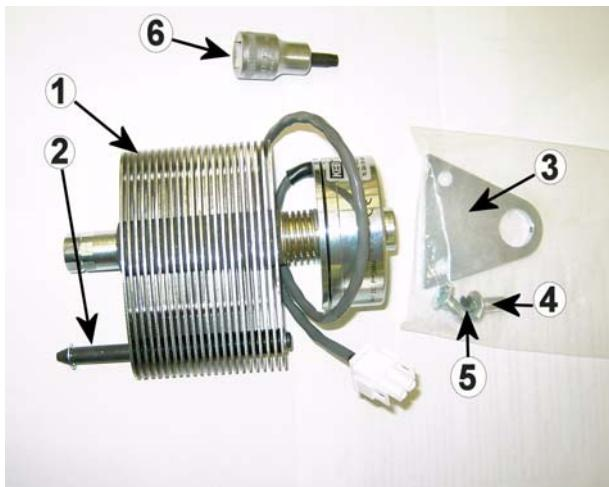
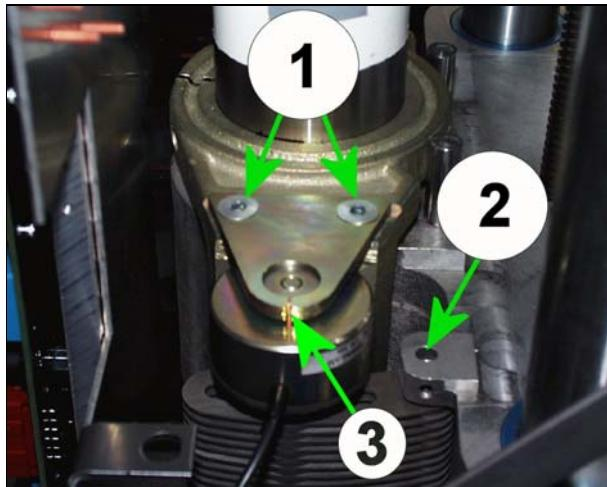

Fig. 1
Fig. 2
1 / Fig. 1 = swivel brake
2 / Fig. 1 = bolt
3 / Fig. 1 = mounting bracket above
4 / Fig. 1 = countersunk head screws for upper mounting bracket
5 / Fig. 1 = grub screw for mounting upper bracket
6 / Fig. 1 = TORX screwdriver insert
- Move the vertical lifting column up until the two screws 1/ Fig. 2 and the bolt 2/ Fig. 2 are accessible.
- Unscrew the bolt 2/ Fig. 2 completely. This is fastened by means of grub screws or locking ring depending on the production period.
- Loosen the two countersunk head screws 1/ Fig. 2 of the upper mounting bracket.
In the older version of the swivel brake (gold colored), the countersunk head screws 1/ Fig. 2 are secured with high-strength LOCTITE against loosening.
Do no remove the bolt 2/ Fig.2 from the new brake to start with!
- Remove the lower locking ring from the bolt 2 / Fig. 1.
- Set the new upper mounting bracket (see 3 / Fig. 1) on the holder and swivel brake and fasten it with the enclosed new countersunk head screws (see 1/ Fig. 2). Secure the countersunk head screws with Loctite 243.